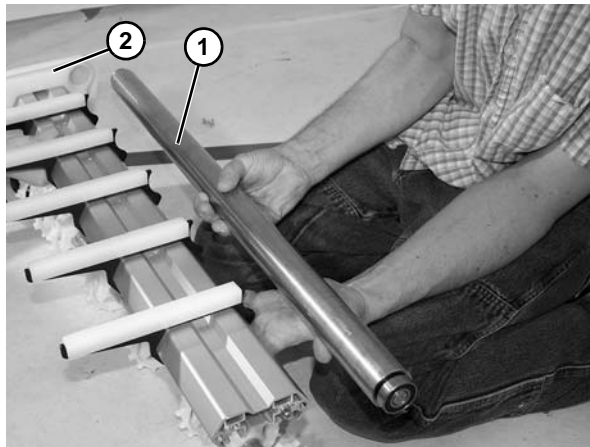

Figure 60
13. Remove shaft assembly (**Figure 60, item 1**) from end plate (**Figure 60, item 2**).